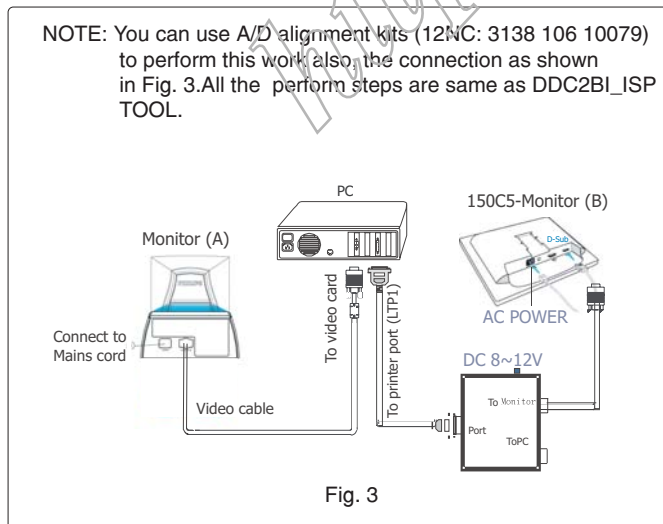

Fig. 3
Step 1 : Make a folder in your PC as shown in Fig. 3.